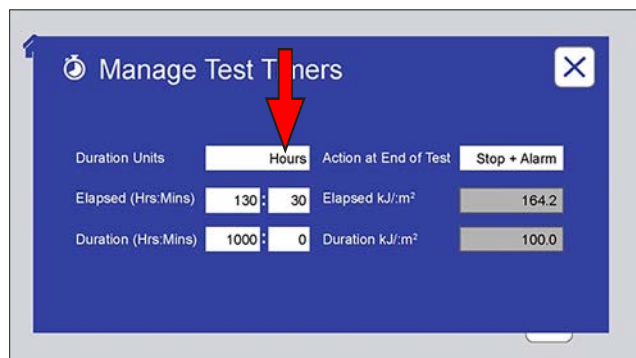
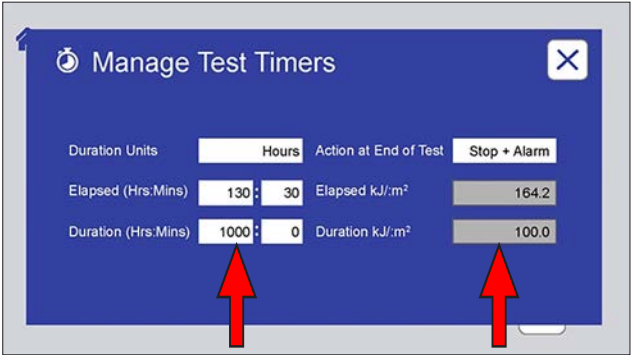

Figure 10.5d: Touch the Duration Units text box to set the test duration units in hours or in energy (kJ/m²).
Figure 10.5f: The value text boxes for the selected duration unit are enabled. The text boxes for the unselected duration unit are disabled (grayed out).
- Set test duration units (Figure 10.5d through Figure 10.5f).